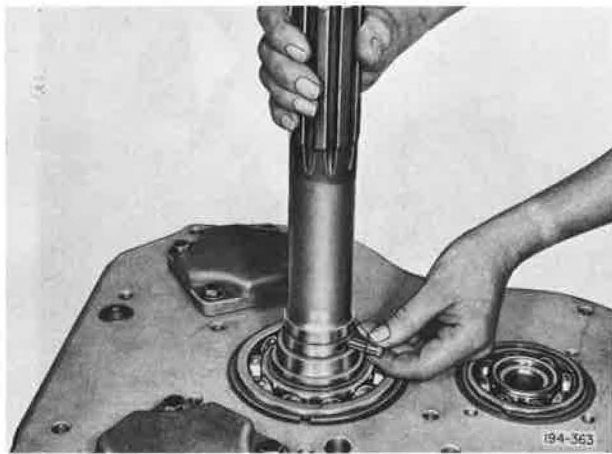

Figure 5-140. Removing Oil Pump Vane from Pinion
8. Remove lower compound countershaft bearing cover assembly with O-ring. Remove compound main driving pinion cover assembly, then remove oil pump vane from pinion. See Figure 5-140.